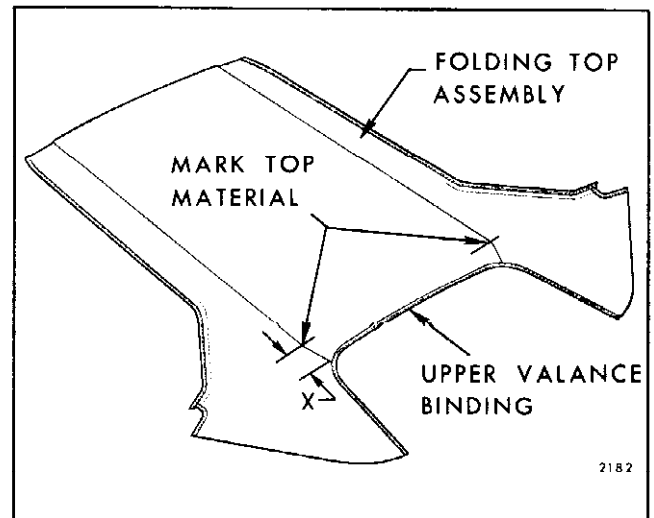

Fig. 13-38 - Marking Top Material
3. Using a pencil, mark top material (mark should be approximately 1/2" in length) at deck seam 5-1/4" on "B, C & F" and 4-1/4" on "A" Styles from edge of top material upper valance binding. (See dimension "X" in Fig. 13-38).